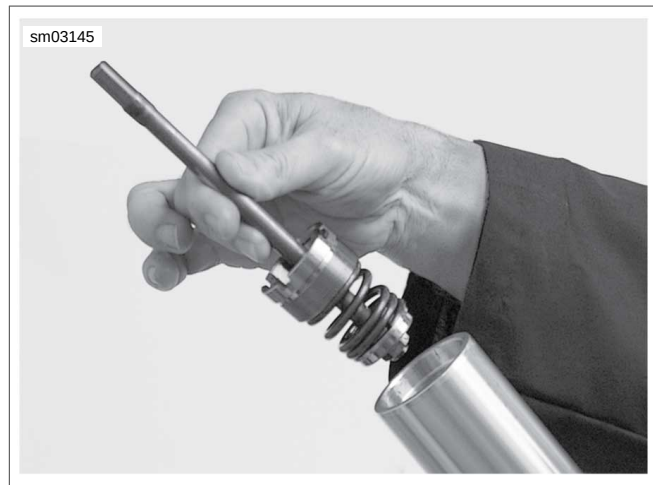

Figure 2-178. Inner Fork Nut
4. See Figure 2-178. Using INNER FORK NUT REMOVER/INSTALLER (Part No. HD-47852) and remove inner fork nut assembly from fork tube.